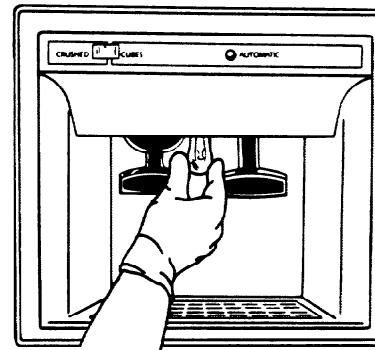

Figure 93
- b. Wear protective gloves to remove defective bulb and replace with functioning bulb. See Figure 93.